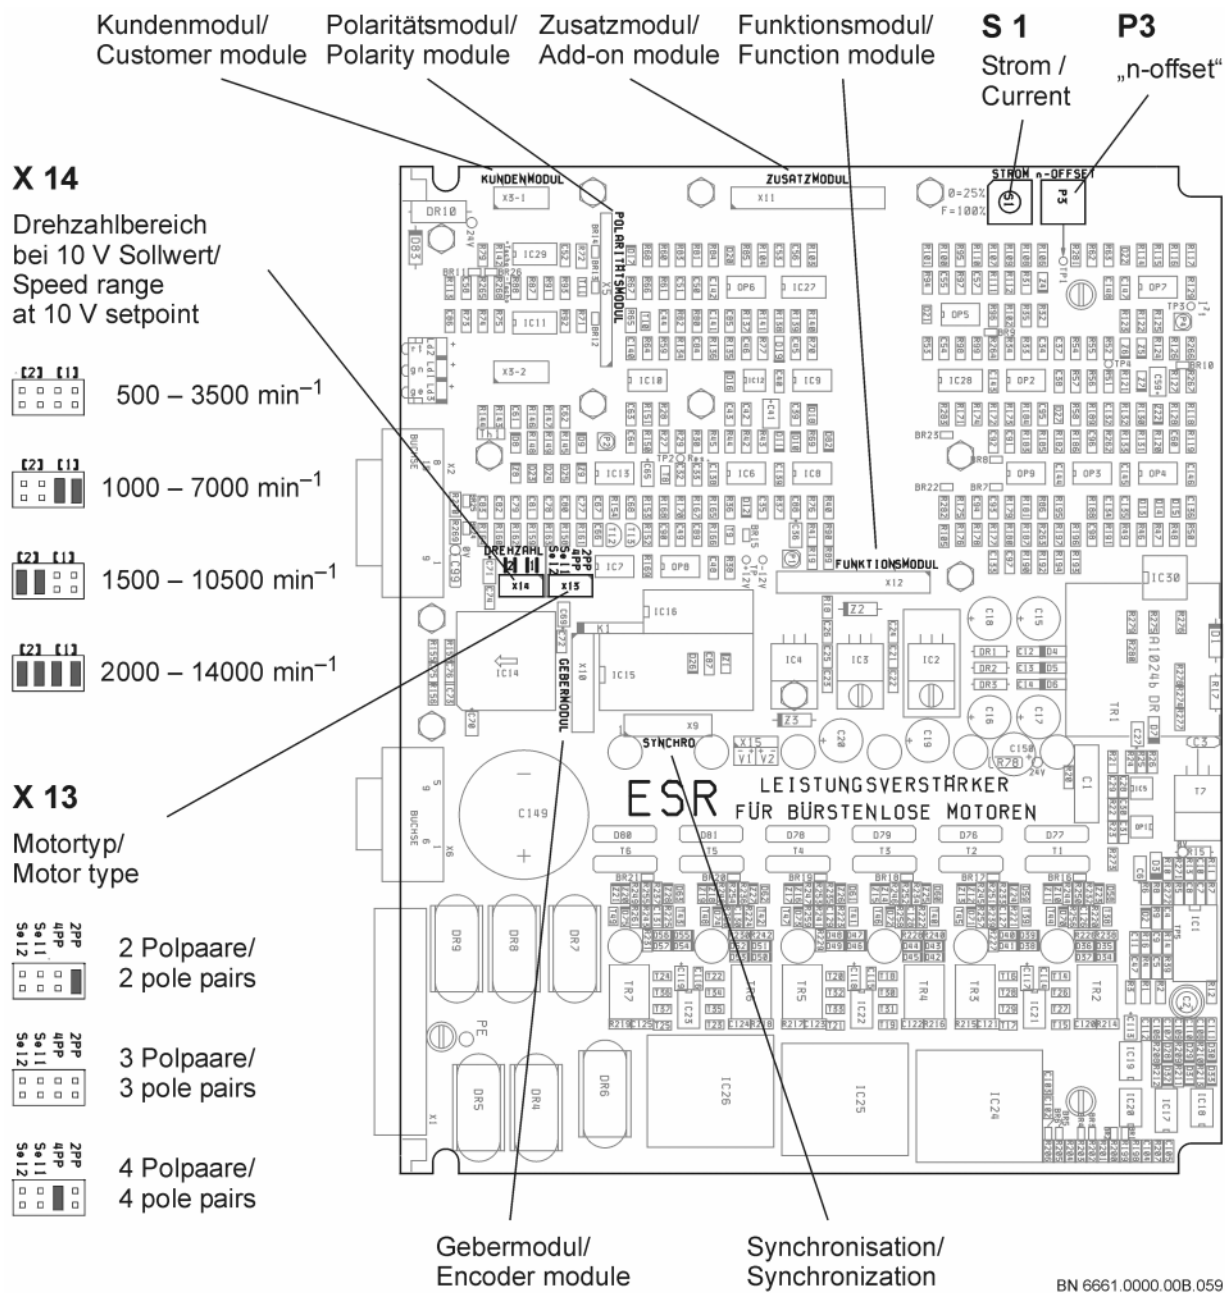

Fig. 9: Location of the jumpers on the board
The speed control range is determined using the option K (K1, K2, K4, K5, KA, and KB). However, it is not implemented on the customer module, but by means of jumpers on the board. Modify by relocating the jumpers on the X 14 field, labeled "DREHZAHL" (= speed). 2 jumpers must always be placed at the same time. The positions are marked [1] and [2]. Figure 9 shows the location of the jumpers and the locating options.
- If the amplifier is fitted with an add-on module, the offset must be readjusted in the manner described below. To do this, the offset trimmer on the front panel is required, as well as the potentiometer inside the device which is marked "n-OFFSET". It is located at the very top behind the front panel, see fig. 9.
There are 4 positions for each jumper. The positions are labeled 2PP, 4PP, Sel1 and Sel2. Figure 9 shows the location of the jumpers and the locating options.